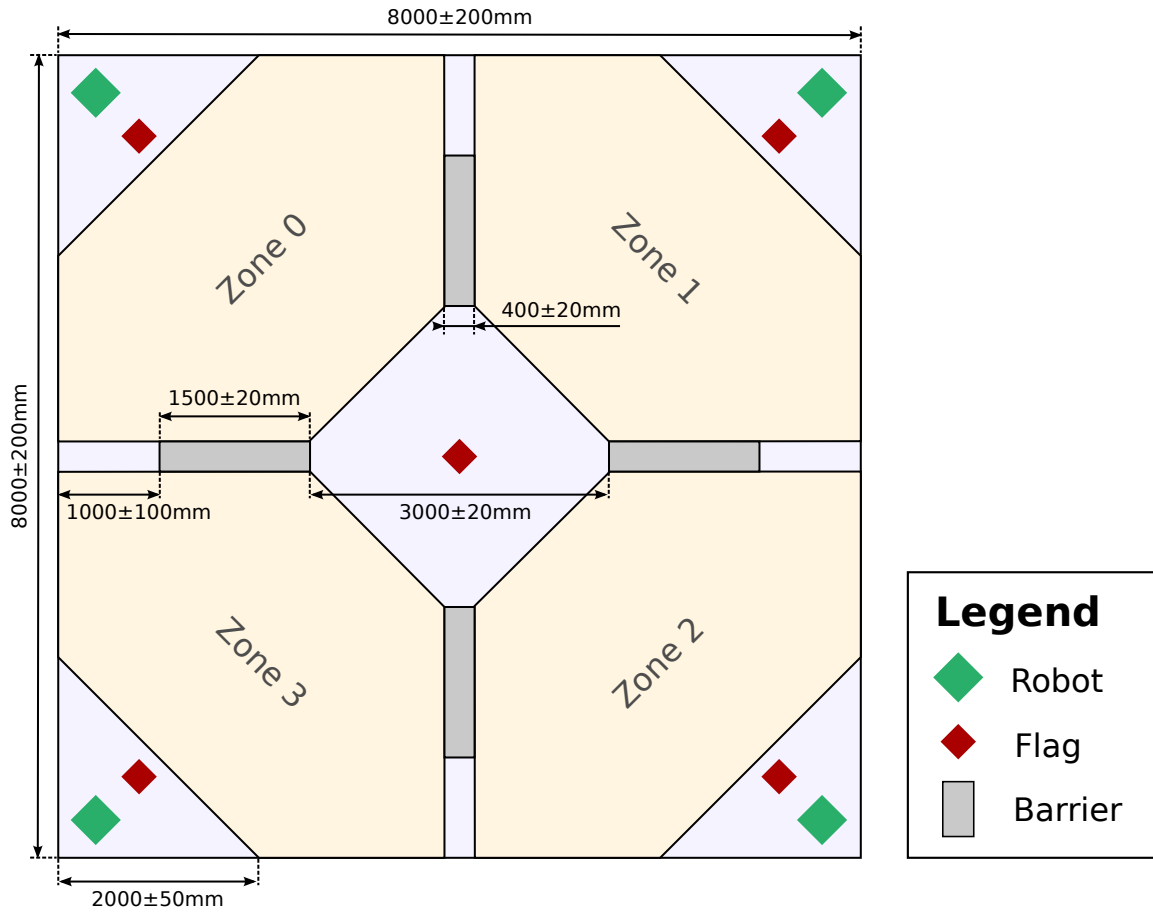

Figure 3: A bird's-eye view of the arena. All dimensions are in millimetres.
- 3.4.1 There are four zones in the arena, each in front of one of the corners. The arrangement and dimensions of these zones can be seen in figure 3.
- 3.4.2 Part of the boundary between adjacent zones will be formed by a barrier. The barriers will be $100 \pm 20mm$ high, $400 \pm 20mm$ wide and $1500 \pm 20mm$ long. The locations of the barriers can be seen in figure 3.
- 3.5.7 There will be 5 flags in the arena. Their starting positions can be seen in figure 3.